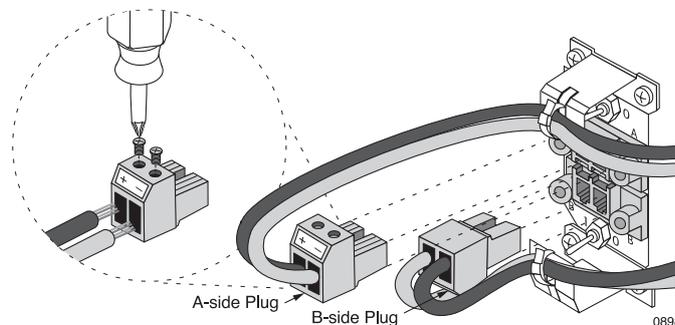

Figure 8 Installing the DC Power Cables
4. Insert the A-side and B-side plugs in the connectors on the rear panel of the chassis, so that they are oriented 180° with respect to each other, as shown in Figure 8. The connectors are polarized so that you cannot insert them incorrectly.
5. Secure the cables to the circuit-breaker shields as shown in Figure 8.